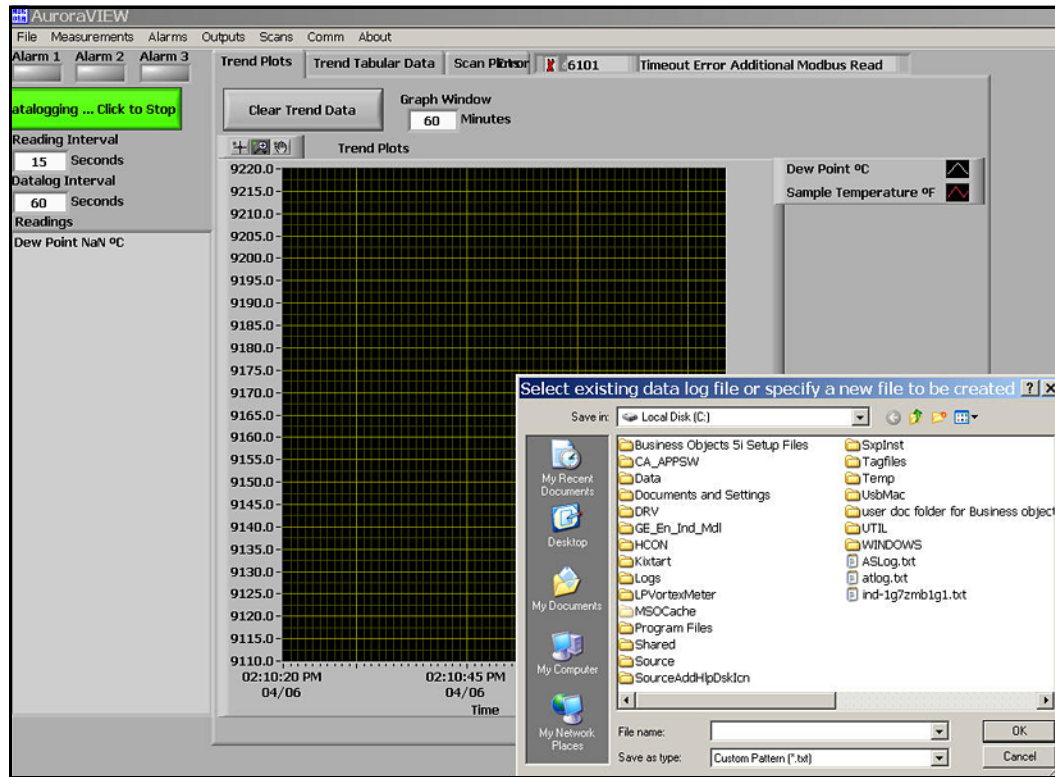

Figure 72: Datalogging with AuroraView
1. In the main view (see Figure 72 below), click on the button Click to Datalog.